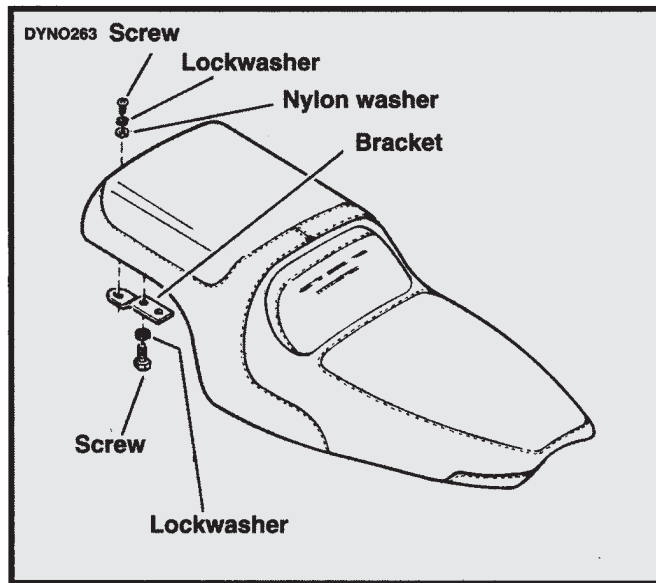

Figure 48. Seat and Mounting Hardware (Typical)
1. See Figure 48. Remove screw and washer from rear seat bracket.